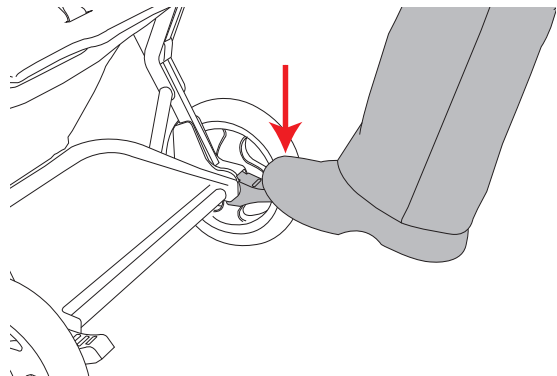

Figure 12
- To engage the rear wheel brakes, push down on the brake levers located on each rear wheel. See Figure 12. The stroller may require slight forward or rearward movement in order to line up the teeth on the brake with each wheel brake cluster.